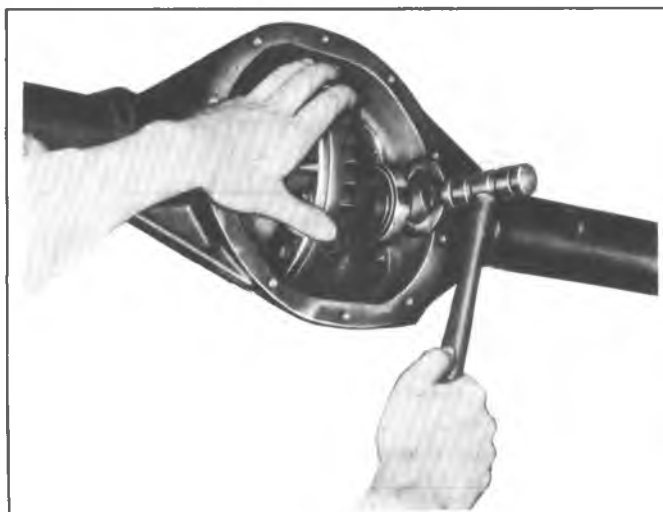

Fig. 9B--Installing Differential Shim
11. If difficulty is encountered in installing shim, partially remove case and slide case and shim into position. Tap shim into position, using a soft faced hammer, while rotating differential case with free hand as shown in figure 9B.